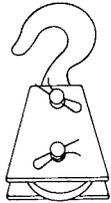

Figure 8
3. **USE A PULLEY BLOCK FOR HEAVY LOADS.** To maximize winch and wire rope life, use a pulley block to double line heavier loads (Figure 8).